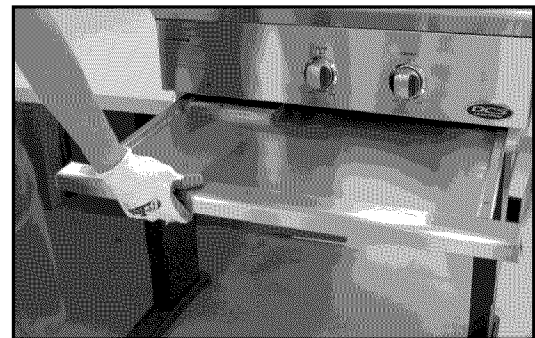

Fig. 09
1. Remove drip tray/pan (Fig. 09) and other removable components (to lighten the load) such as grates, top burner caps and components, and griddle flue cover, radiant tray and grill burner for easier handling.